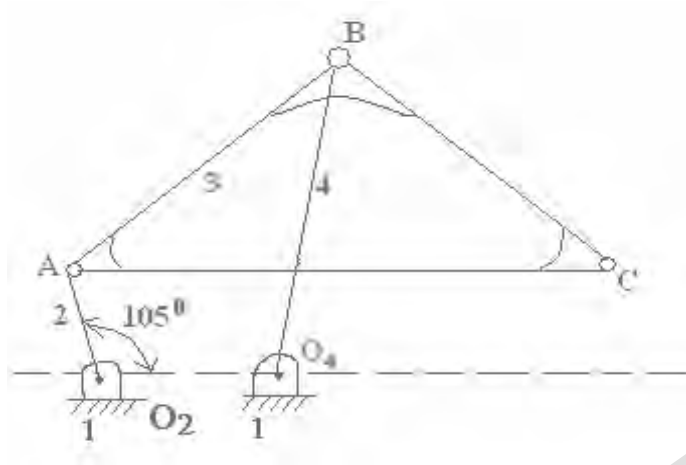

Figure 6
6. Explain the types of instantaneous centres for a mechanism. Locate all the instantaneous centres for the mechanism shown in the figure 6. Determine the velocity of point C and the angular velocity of link 3.